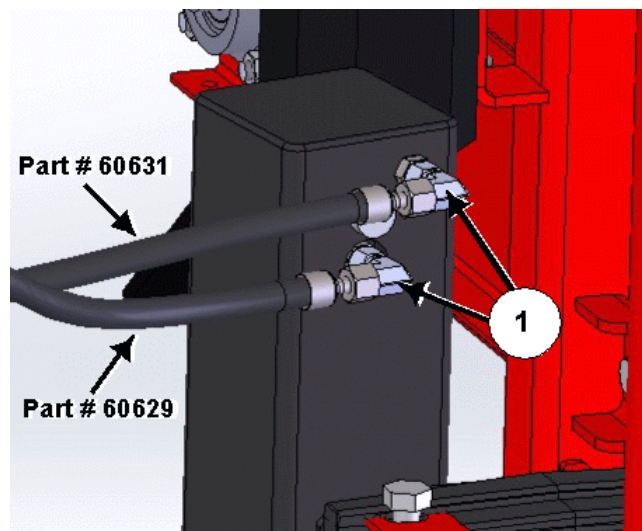

Figure 5: Connect hoses to the jack
8. Connect the hydraulic hoses to the hydraulic jack, see *Figure 5*.
- a. Connect a 90° elbow (1) to both positions on the hydraulic jack.